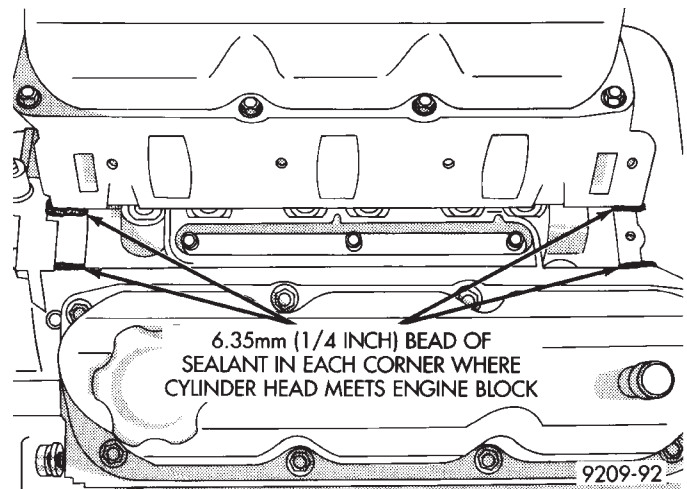

Fig. 15 Intake Manifold Gasket Sealing
(1) Clean all surfaces of cylinder block and cylinder heads.
(2) Place a drop (approximately 1/4 in. diameter) of Mopar Silicone Rubber Adhesive Sealant or equivalent, onto each of the **four** manifold to cylinder head gasket corners (Fig. 15).